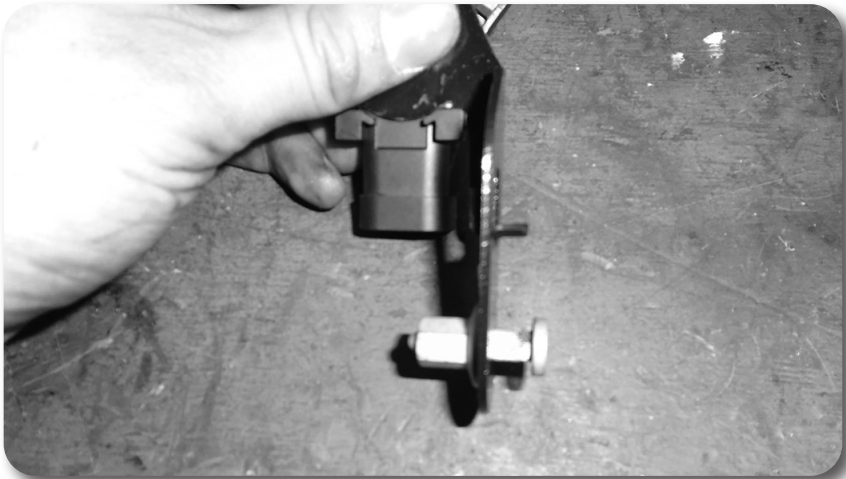

Figure 50
74. **6" Denali Models (ARC Models) Only:** Remove the stud and nut assembly from the factory ARC sensor bracket. Install the stud and nut assembly into the new ARC sensor bracket Fig. 50.